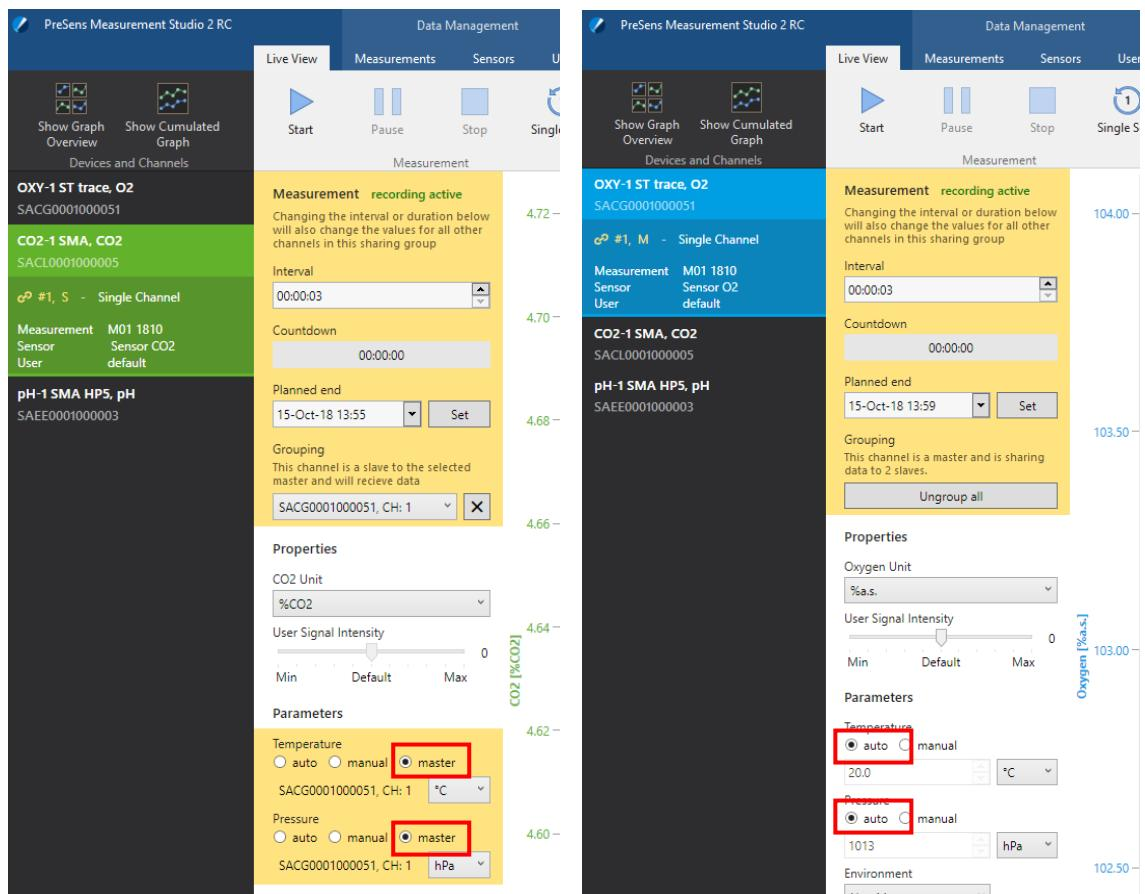
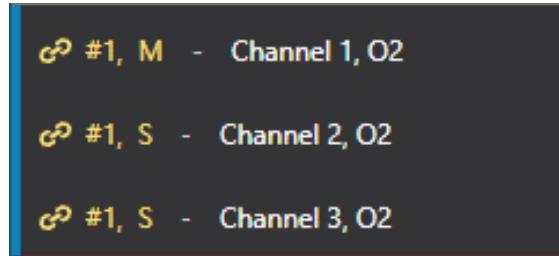

Fig. 64 Setting the Temperature and Pressure modes for the Slaves (left) and the Master (right).
Fig. 65 Grouping symbols: Linked status, group number, M for Master and S for Slave
4. Set each Slave channel's **Temperature** and / or **Pressure** input to **master** (see Fig. 64, left).
You will be able to distinguish grouped channels by a distinctive yellow background in the Live View of each channel (see Fig. 64) and grouping symbols in the channel list, see Fig. 65.